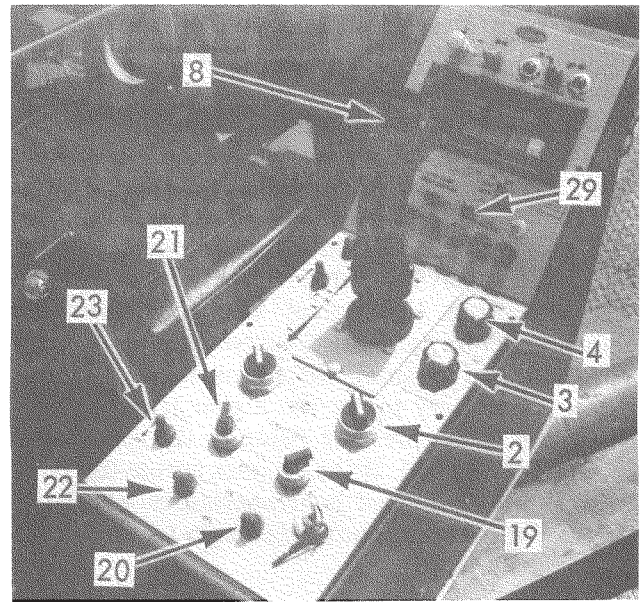

Figure 11. Conveyor Control
19. Right Conveyor Selector (Figure 11)
21. Left Conveyor Selector. (Figure 11)
23. Hitch Height Switch. (Figure 11)
8. Select auto speed operation. (Ref. 2, Fig. 11)
12. Depress the gate/spread roll switch (Ref. 8, Fig. 11) fully to the right on reaching the start of spreading.
13. Verify speed as shown on the display after fully releasing the override pedal and adjust if necessary, using the auto speed set point. (Ref. 3, Fig. 11)
1. Center the gate/spread roll switch (Ref. 8, Fig. 11) upon reaching the end of the newly chipped surface.
1. Switch auto manual selector to “manual.” (Ref. 2, Fig. 11)
Should a piece of foreign material become lodged in the gates, push the gate override pushbutton (Ref. 29, Fig. 11) to open the appropriate gate above the set point to allow the piece to pass. Releasing the override will return the gates to the previously set position.